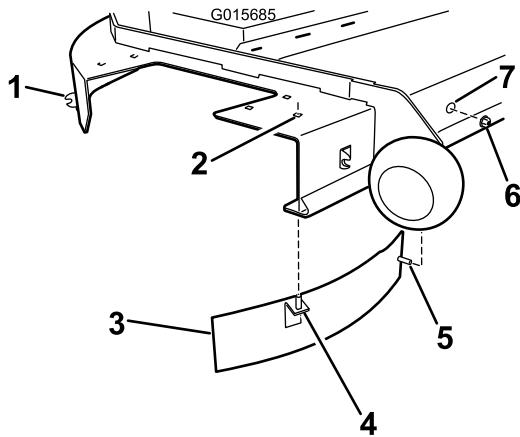

Figure 6
4. Install a baffle to the mower deck (Figure 6). For 48 inch decks, use a straight baffle. For 54 inch decks, use a curved baffle. Align the vertical post on the baffle inside the mower deck. Rotate the baffle until the horizontal post aligns with the hole in the front wall of the mower deck. Secure it to the front wall of the mower deck using a lock nut.